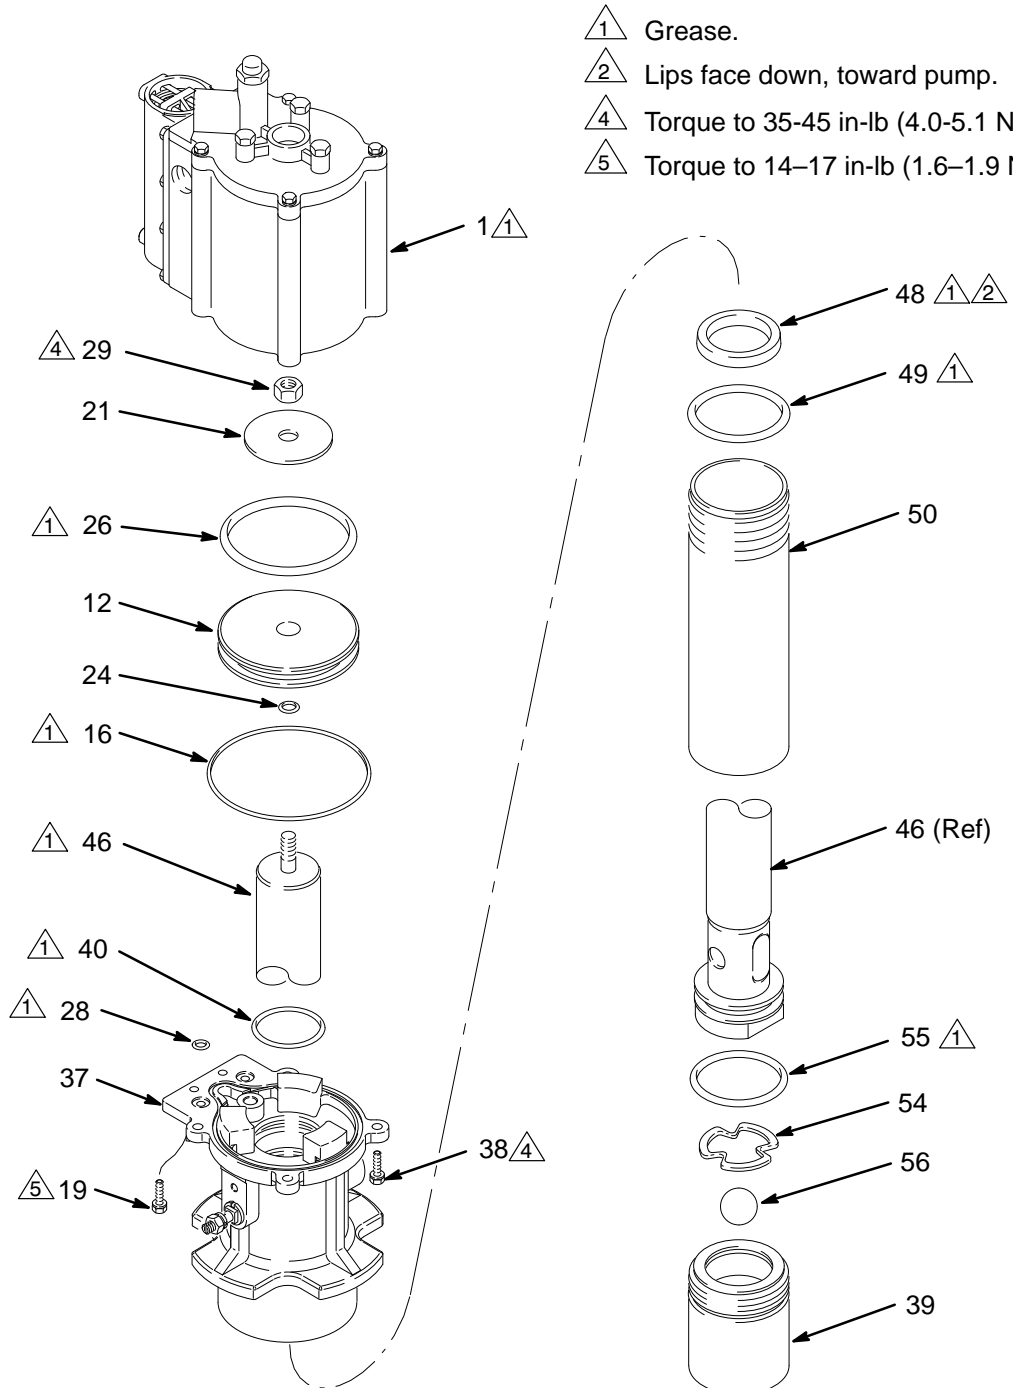
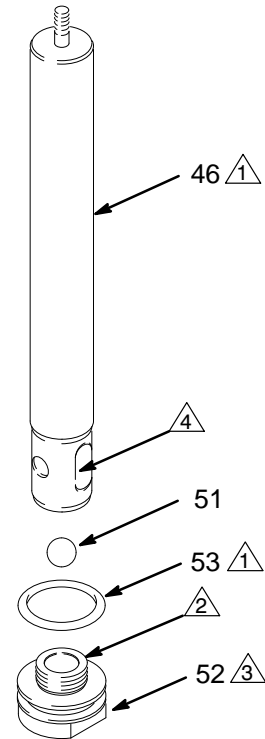

Fig. 5
Fig. 6
2. Remove the four screws (38) and two screws (19) holding the air motor base (37) to the air motor cylinder (1). Pull the cylinder off the base, remove the large o-ring (16) and two small o-rings (28), and set these parts aside. See Fig. 5.
3. Unscrew the intake valve housing (39) from the pump cylinder (50). Disassemble the intake valve.
- Use a strap wrench on the pump cylinder (50) to loosen it from the motor base (37). Continue to unscrew the cylinder from the motor base by hand until the cylinder comes free. Pull the cylinder off the pump. See Fig. 5.
- Hold the flats of the fluid piston (52) in a vise. Unscrew the nut (29) from the top of the displacement rod (46). Remove the washer (21), o-ring (24), piston o-ring (26), and air motor piston (12) and set them aside. Pull the motor base (37) up off the displacement rod.
- Using a wrench on the flats of the displacement rod (46), unscrew the rod from the piston (52). Remove the ball (51) and o-ring (53). See Fig. 6.
- Remove the o-ring (49) and block packing (48) from the inside bottom of the motor base (37).
- Remove the o-ring (40) from inside the base.
- 4 Flats of rod (46).
1. Grease the o-ring (40) and install it inside the top of the base. See Fig. 5.
2. Grease the block packing (48) and install it in the motor base (37). The lips of the packing must be facing down, toward the pump. Grease the o-ring (49), and install it in the bottom of the motor base (37).
3. Grease the displacement rod (46) and slide it down into the air motor base (37) so the narrow end protrudes from the top of the base.
4. Grease the o-ring (53) and install it on the fluid piston. Apply thread sealant (111–368) to the piston threads. Place the piston upright in a vise with the jaws on the flats. Set the ball (51) on the piston seat. Screw the displacement rod (46) with the motor base (37) onto the piston. Using a wrench on the flats of the rod, torque to 40–60 ft-lb (54–81 N.m). See Fig. 6.
5. Install one o-ring (24), the air motor piston (12), and the flat washer (21) on the displacement rod (46). Make sure the chamfer side of the piston (12) is facing down toward the o-ring (24). Screw the nut (29) onto the displacement rod (46). Torque to 35–45 in-lb (4.0–5.1 N.m). Grease the large o-ring (26) and install it in the outer groove of the piston (12). See Fig. 5.
6. One end of the cylinder (50) has threads on the outside. Slide this end over the fluid piston and into the motor base (37) so the threads engage with the base. Screw the cylinder into the base by hand, then place the base in a vise with soft jaws.
7. Grease the o-ring (55) and install it on the intake valve housing (39). Install the ball (56) and ball retainer (54), and screw the valve housing securely into the cylinder (50). Use a pipe wrench on the knurled portion of the intake valve housing to tighten the valve and cylinder.
8. Remove the pump from the vise. Grease the large o-ring (16) and two small o-rings (28), and install them on the motor base (37). Grease the inside of the air motor cylinder (1), and position it on the base. Install the four screws (38) and torque to 35–45 in-lb (4.0–5.1 N.m). Install the two screws (19) and torque to 14–17 in-lb (1.6–1.9 N.m).